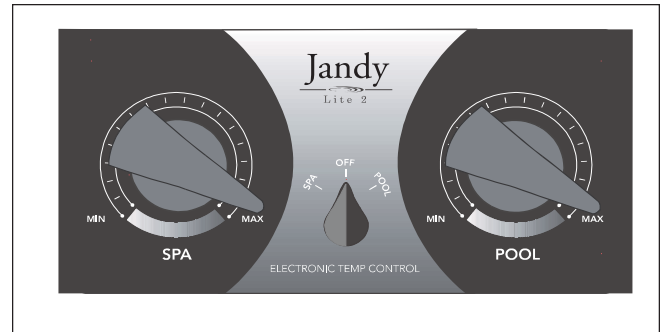

Figure 17. Temperature controls.
The temperature control (see Figure 17) is calibrated at the factory and covers a range from approximately 70°F to 104°F (21°C to 40°C). Use an accurate pool thermometer to determine the best water temperature for your uses.
middle turns off the heater (see Figure 17).
1. Set the control panel rotary switch to the OFF position (see Figure 17).
2. Set the rotary switch on the temperature control panel (see Figure 17) to OFF.